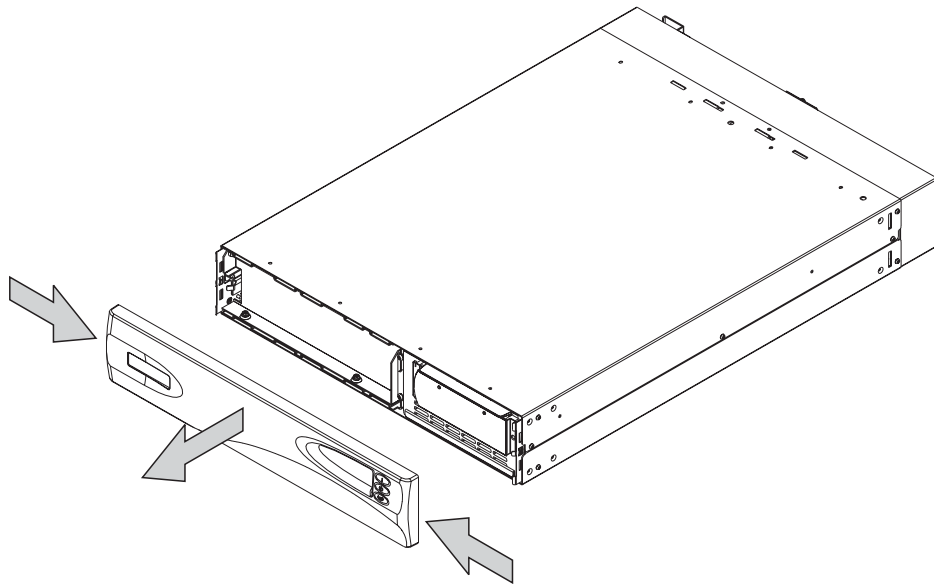

Figure 152. Removing the front panel of the 2145 UPS
3. Remove the front panel by pressing the sides inward and pulling both ends towards you. See Figure 152 on page 314.